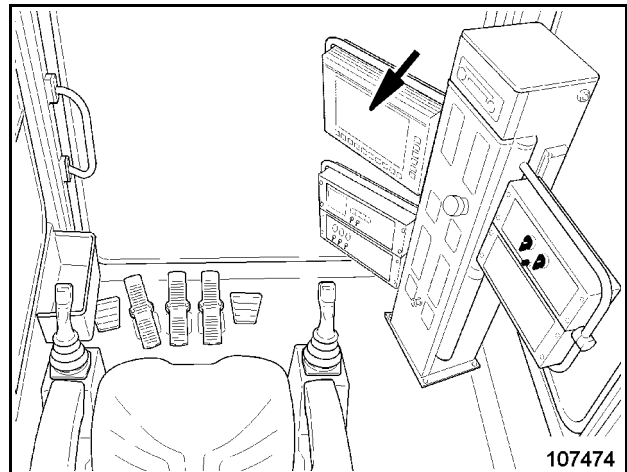
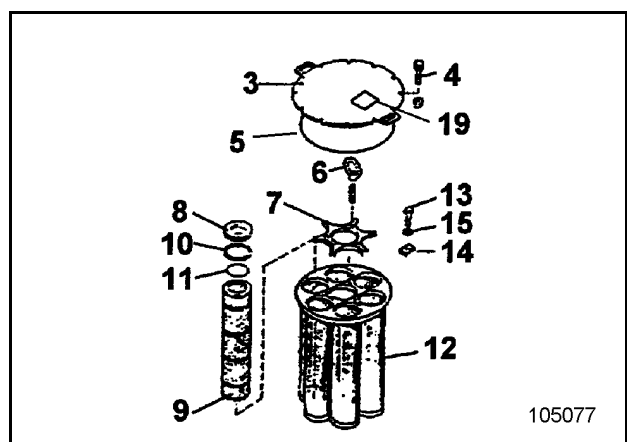

Fig. 3-74:
Fig. 3-75:
- when the BCS displays a warning on the screen (Fig. 3-74:). In this case, the filter elements (9, Fig. 3-75:) are heavily contaminated;